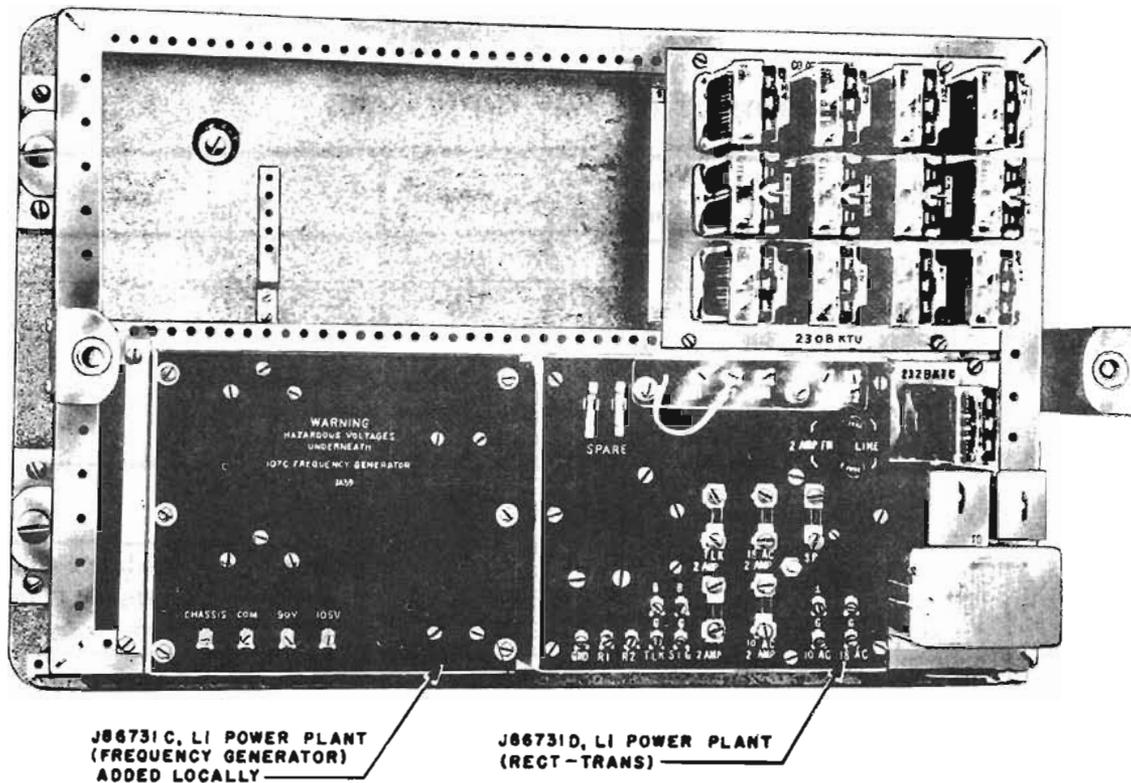

Fig. 6 – Power Plants Mounted on 16A Apparatus Mounting
**5.06** The J86731C, List 1 (107C) power plant is not housed in a cabinet, but is arranged to mount in a KTU apparatus cabinet or on a relay rack. It occupies a space 7 inches high, 9-1/8 inches wide, and extends 4-1/2 inches in front of the mounting bars. (See Fig. 6.)
**5.08** The J86731D, List 1 power plant is electrically equivalent to the wall-mounted J86731A, List 6 unit, but is arranged to mount in a KTU apparatus cabinet or on a relay rack or in a key telephone system KSU. It occupies a space 7 inches high, 9 inches wide, and extends 4-1/2 inches in front of mounting bars. (See Fig. 6.)